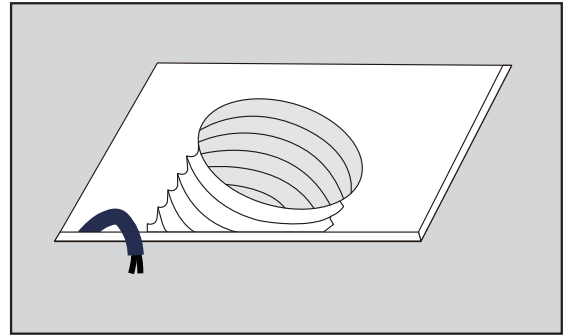

Fig 21
2. Remove the old fan and leave ductwork and wiring in place. (Fig 21)